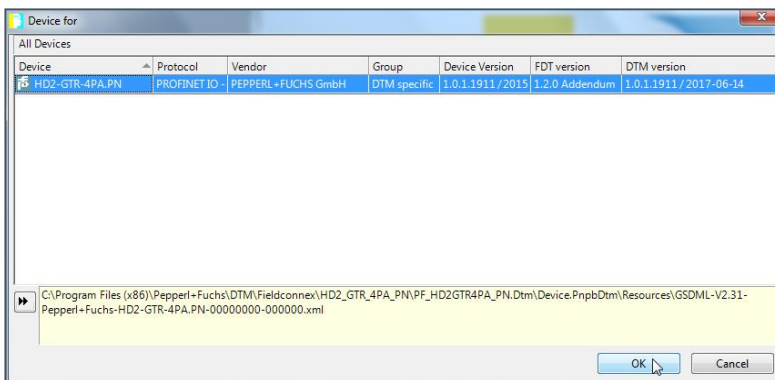

Figure 79: Add PROFINET gateway manually
- 2) Select the Pepperl+Fuchs PROFINET gateway **HD2-GTR-4PA.PN** and click **OK** see: Figure 79: Add PROFINET gateway manually).